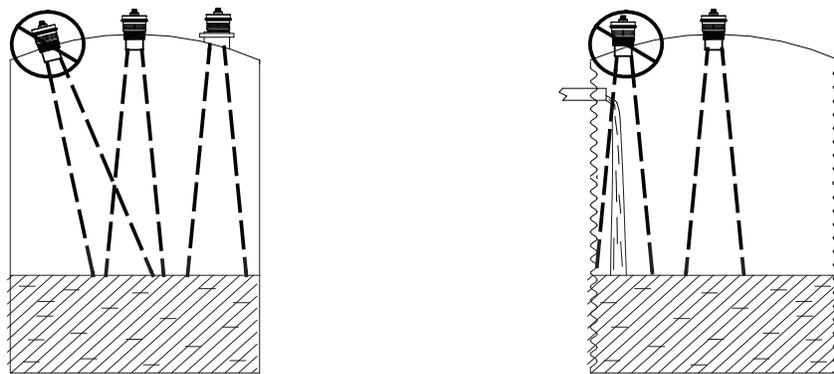

Figure 2.1
- Mount your MNU IS sensor so that it has a clear, perpendicular sound path to the surface being monitored. Your sensor should be mounted away from tank or vessel walls and inlets. (See Figure 2.1)